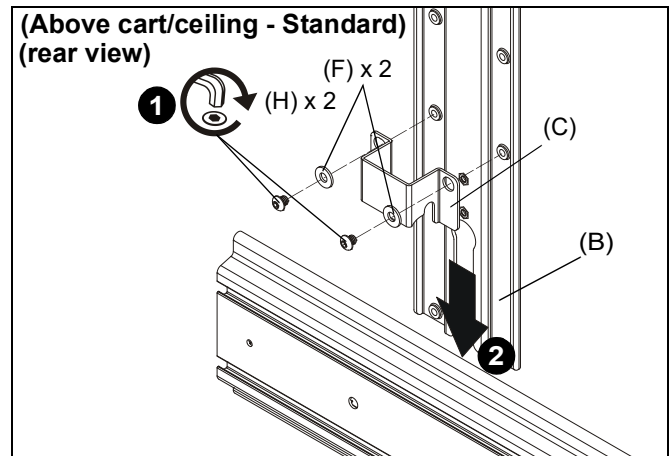

Figure 16
- Use two 1/4-20 x 1/4" button head cap screws (H) and two large washers (F) to secure shelf bracket (C) to main bracket (B). (See Figure 16)
- Slide main bracket (B) onto front of cart/ceiling mount head assembly until shelf bracket (C) rests on top of head assembly. (See Figure 16)